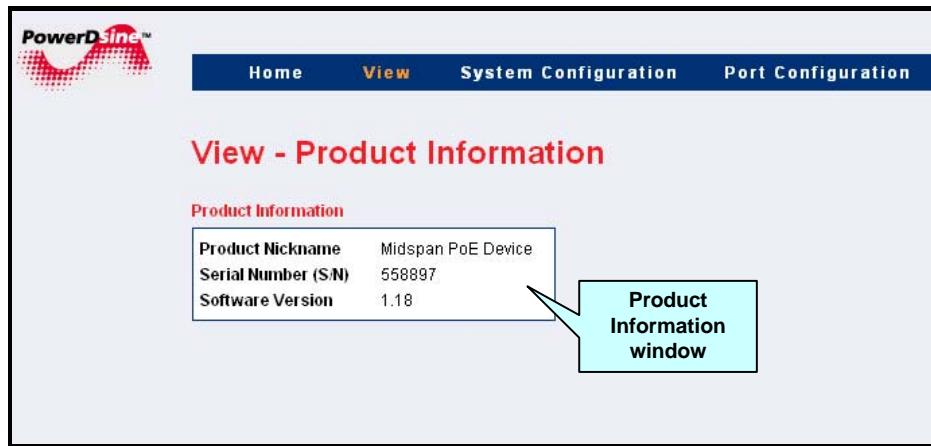

Figure 4-5: View - Product Information Screen
*View - Product Information* screen displays the following parameters (see Figure 4-5):